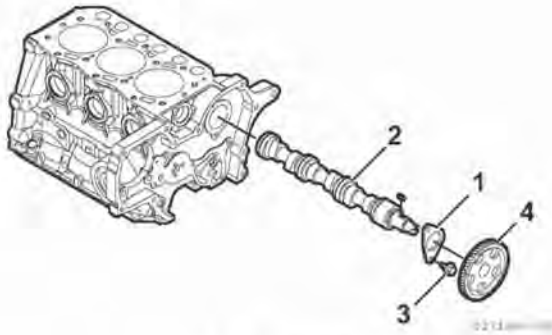

Figure 6-96
- If removed, install the camshaft end plate (**Figure 6-96, (1)**), key and camshaft gear (**Figure 6-96, (4)**) onto the camshaft using a press.
- Lubricate the camshaft (**Figure 6-96, (2)**) with clean engine oil or assembly lube. Slowly insert the camshaft through the front of the engine.
- Install and tighten the capscrews (**Figure 6-96, (3)**).